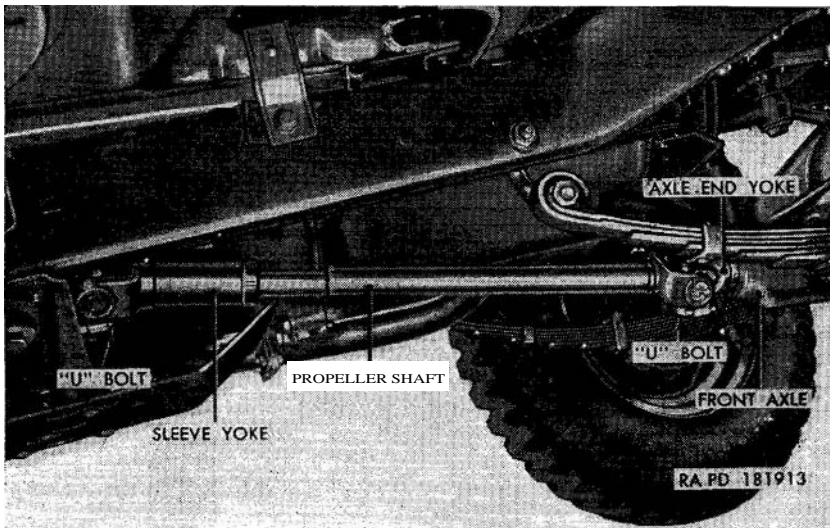
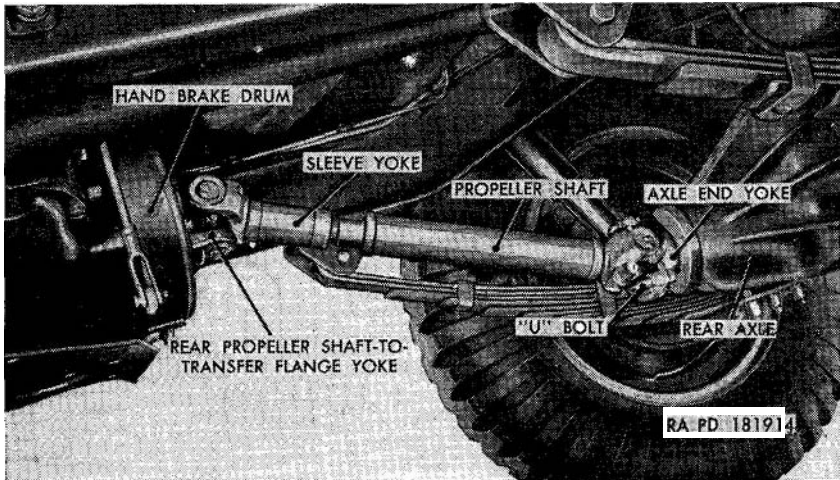
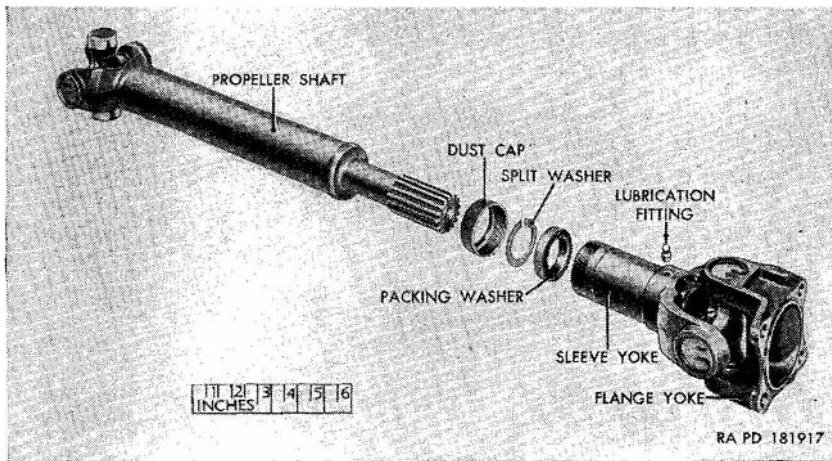

Figure 129. Front propeller shaft with universal joint assembly—installed.
Figure 130. Rear propeller shaft with universal joints—installed.
Figure 133. Rear propeller shaft with universal joints—partially exploded view.
a. *Description.* The front propeller shaft (fig. 129) with universal joints transmits power from the transfer to the front axle. The rear propeller shaft. (fig. 130) with universal joints transmits power from the transfer to the rear axle. Each assembly includes a propeller shaft, a universal joint sleeve yoke, and two universal joints. Corresponding parts of the front and rear assemblies are similar except for the length of the shaft, and the front universal joints of the rear propeller shaft. This universal joint includes the propeller shaft flange yoke, and is modified accordingly.
(fig. 129)
(fig. 130)
*a. General.* The universal joint sleeve yoke assemblies (figs. 129 and 130) used on the front and rear propeller shafts are practically identical. Removal and installation procedures for both are referenced to figure 133.
*b. Universal Joint Sleeve Yoke Removed* (fig. 133).
- (1) Remove the propeller shaft with universal joints (par. 202a or 203a).
- (2) Unscrew the dust cap from the sleeve yoke and slide the yoke with universal joint off the splined shaft. Remove the packing washer and the split washer from the dust cap. Work the two washers and cap off the shaft over the splines. Unscrew and remove the lubrication fitting.
- (3) Follow the procedure described in paragraph 204a(3).
c. *Universal Joint Sleeve Yoke Installation* (fig. 133).
- (1) Follow the procedure described in paragraph 204b (1) and (2).
- (2) Slide universal joint sleeve yoke dust cap over splines on the propeller shaft, convex side first. Slide universal joint sleeve yoke dust cap split washer over splines, and install in dust cap. Slide universal joint sleeve yoke dust cap packing washer over splines and install in cap. Slide the universal joint sleeve yoke with universal joint assembly onto the propeller shaft splined end. Screw the universal joint sleeve yoke dust cap, with the two washers inclosed, onto the yoke end. Insert the lubrication fitting into the yoke hole and tighten the fitting.
- (3) Install the propeller shaft with universal joints (par 202b or 203b).